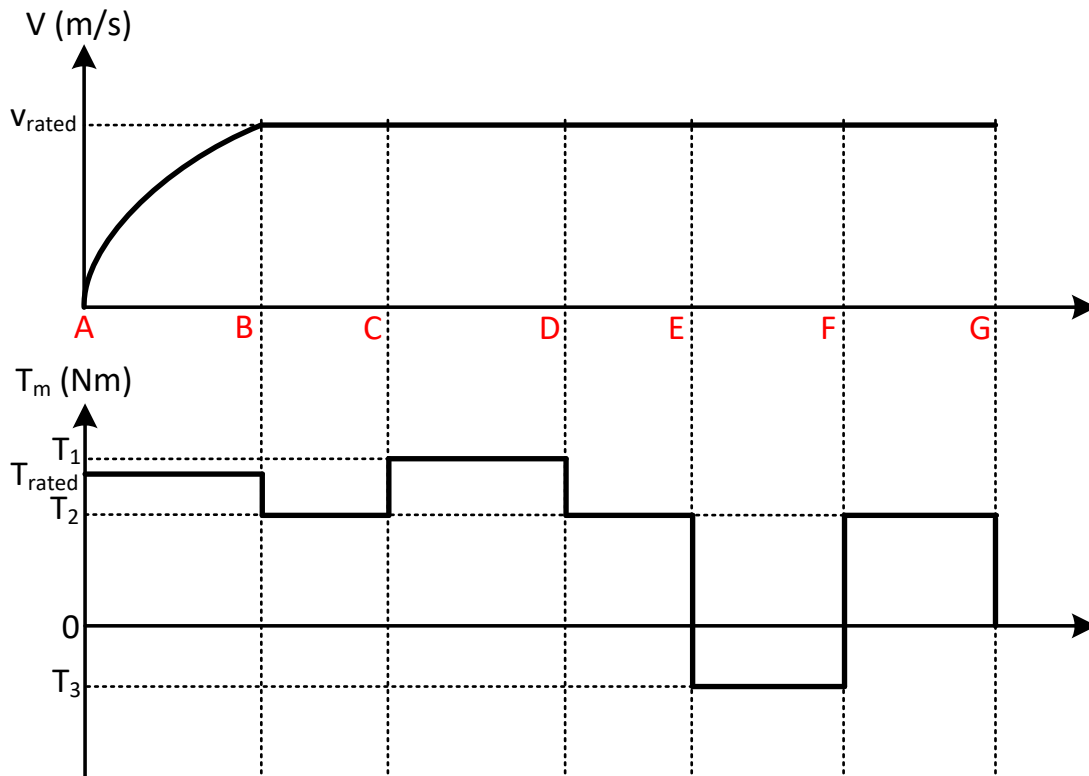

Figure 5: The desired operation (linear speed and motor torque) during the race
- The desired operation during the race is shown in Figure 5. Until point B, the bicycle accelerates up to its rated speed with rated torque and it travels at constant speed until point G.
- The torque of the motor (T_2 in Fig.5), in Nm.
- The torque of the motor (T_1 in Fig.5), in Nm.
- The torque of the motor (T_3 in Fig.5), in Nm.